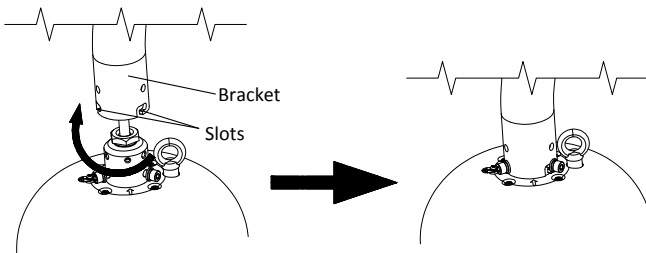

Figure 2-7 Rotate the Bracket
4. Align the bracket with the cable joint and rotate the bracket clockwise until three preassemble screws on the cable joint hooks onto three slots on the bracket as shown in Figure 2-7.